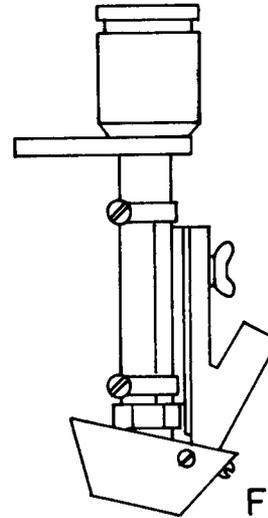

Figure 4
2. Position the stationary member as shown in Figure 4 and then tighten the hose clamps.
4. Since the tips and the wire come out of the nozzle at 7° , there will be some occasions where the cone will have to be tilted as shown. Provisions have been made to accomplish this by removing the furthestmost screw from the tip on each side of the cone, then tilting the cone and putting the two screws back into the rear holes of the cone. Retighten all four screws. See Figure 4.